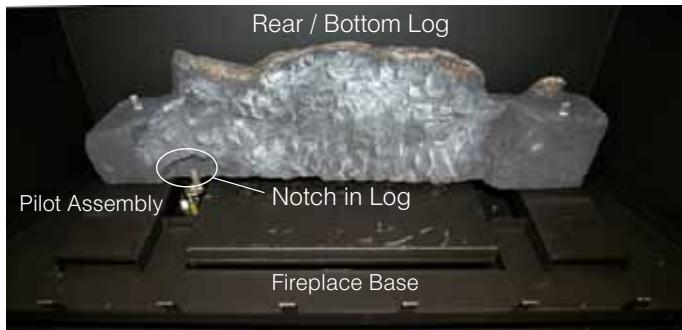

Figure 30a. Placing Bottom Rear Log.
Step 2. Place the bottom Rear log as shown in **figure 30a**.